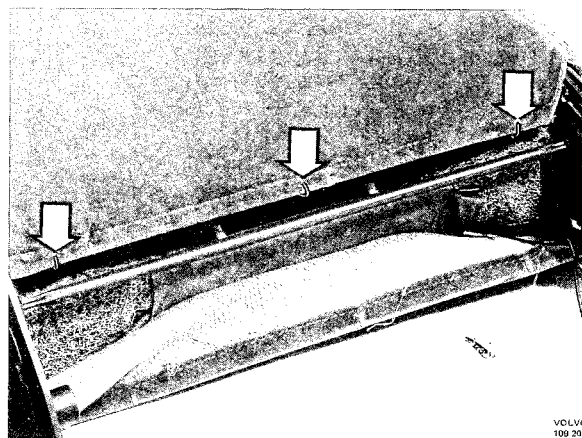

Fig. 8-63. Installing seat back upholstery
- 12. Fit and attach rear upholstery to the seat frame with three clamps, see Fig. 8-63.